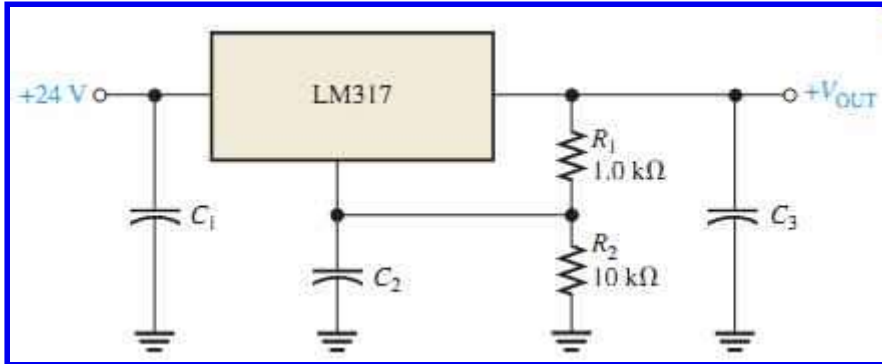

FIG. 51
21. Determine the output voltage of the regulator in FIG. 51. $I_{ADJ} = 50 \mu A$.
23. With no load connected, how much current is there through the regulator in FIG. 51? Neglect the adjustment terminal current.